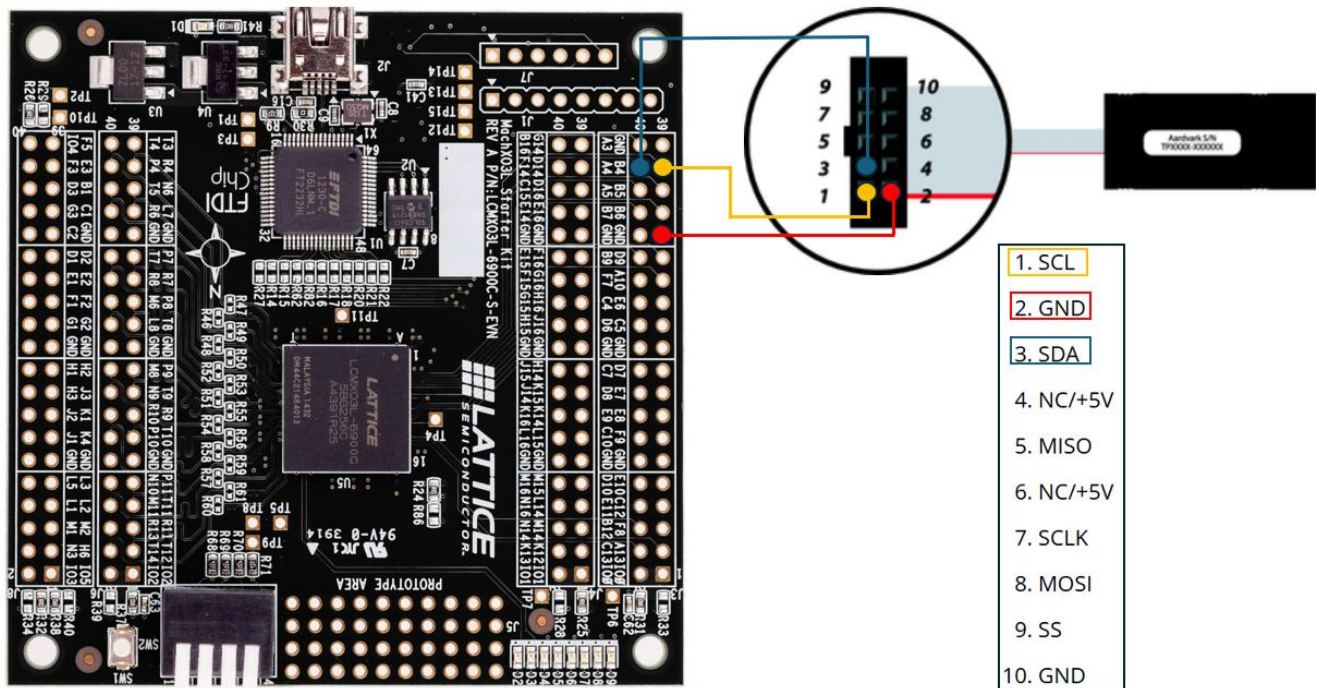

Figure 6.1. I2C Interface Connection
Do not connect the USB port of the Aardvark device to the PC immediately after connecting the I2C interface (Figure 6.1) between the M-PESTI initiator and the Aardvark device. The following steps must be completed first:
- The Aardvark I2C/SPI Host Adapter is connected to the I2C interface of the M-PESTI Initiator board, as described in Figure 6.1